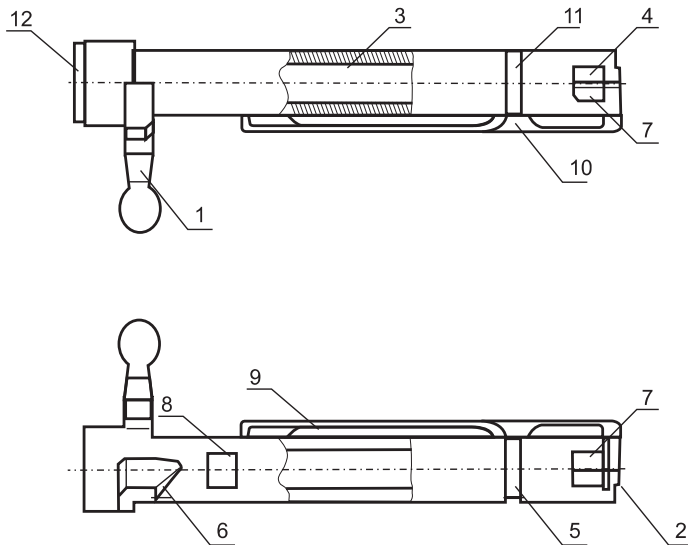

Fig. 4 – Bolt
7. Functions of the bolt (Fig. 4) are as follows: pushing the round into the cartridge chamber, closing the barrel bore, firing the round, extracting the case.